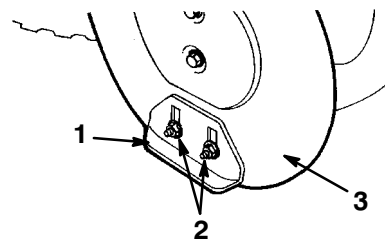

Figure 25
4. Loosen the four flange nuts that secure both skids to the auger side plates (Fig. 25) until the skids slide up and down easily.
- Tighten the four flange nuts that secure both skids to the auger side plates (Fig. 25).